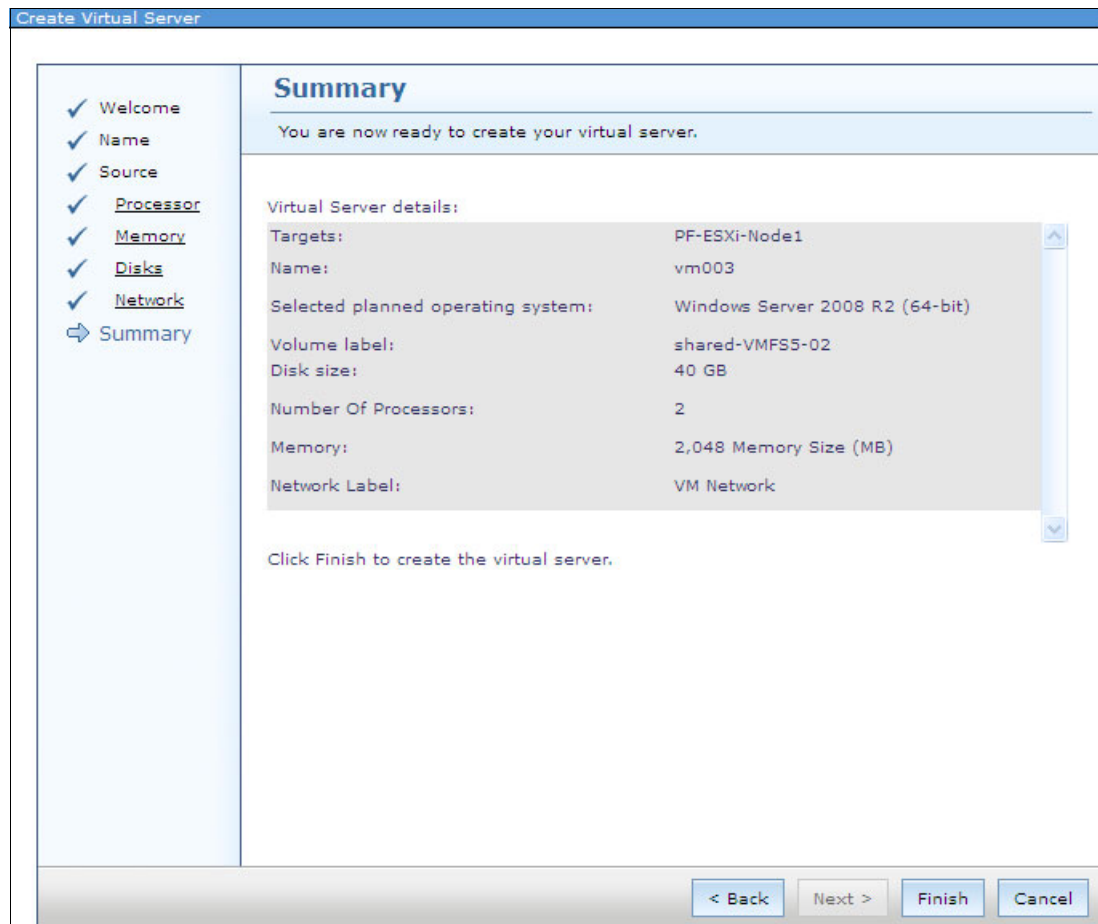

Figure 11-12 Create Virtual Server Summary window
12. Review the Summary window and click **Finish** (Figure 11-12).